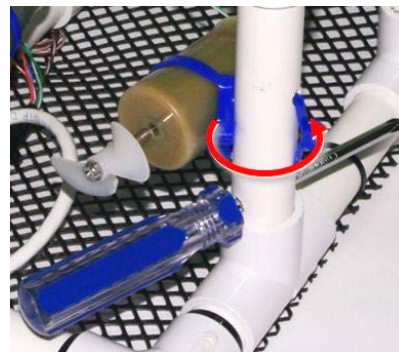

Figure 2.6-6: Thruster Angles Can Be Easily Adjusted By Inserting a Screwdriver into the Angle-Adjustment Holes and Twisting the Pipes
5. You can now use a screwdriver, inserted through the angle-adjustment holes, as shown in Figure 2.6-6, to gently turn the PVC pipes on which the thrusters are mounted so that the thrusters are oriented in the directions that you want.